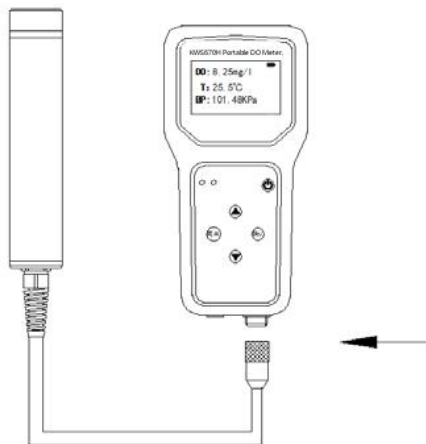

Figure 2
1. Insert the aviation plug of the measurement probe into the bottom of the handheld liquid crystal display and tighten it (as shown in Figure 2).